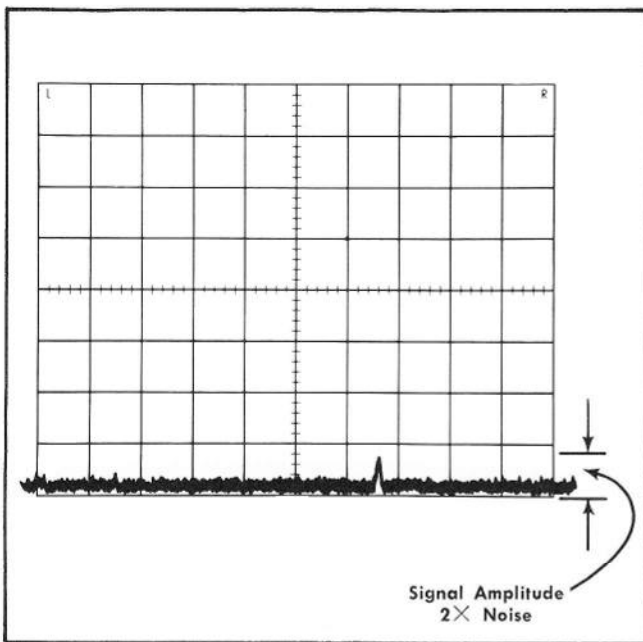

Fig. 5-1. Typical display illustrating signal to noise ratio less than 2:1.
j. Check—Amplitude of spurious signals, within the dispersion window except the 0 Hz start signal, must not exceed 2× noise level. See Fig. 5-1.